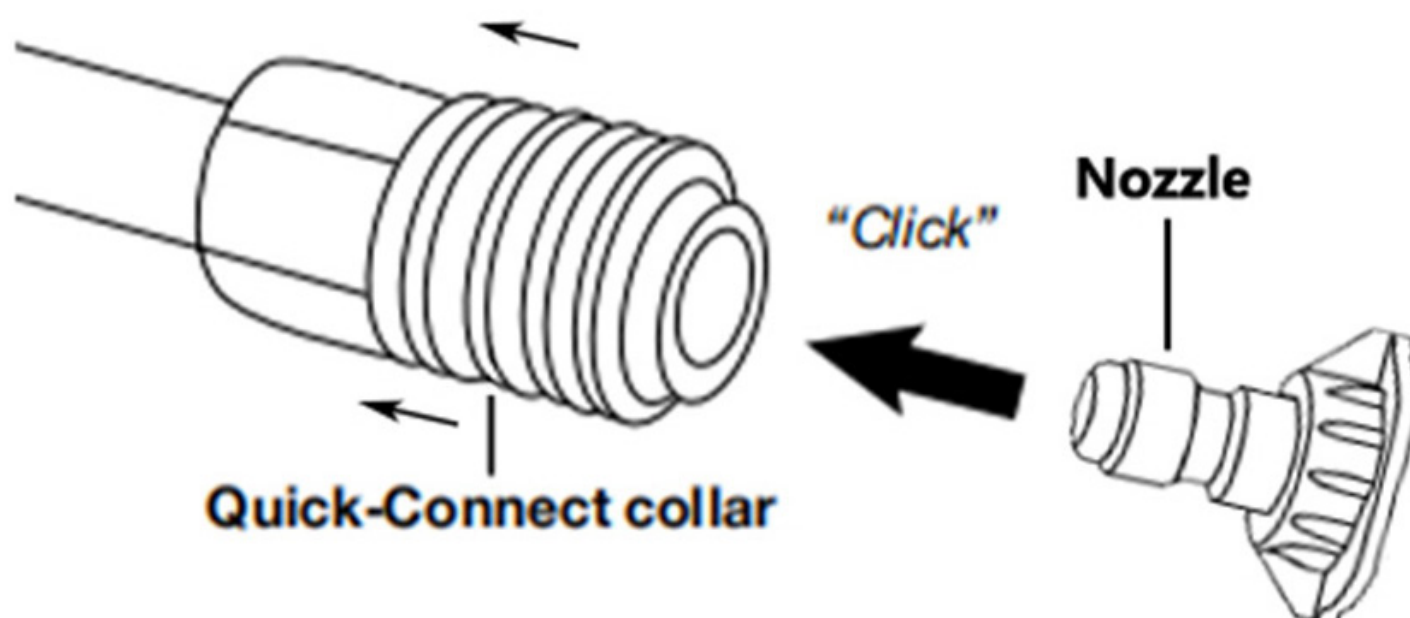

Figure 8: Nozzle Connect
9. Choose the appropriate size nozzle for your work. Use your hands to connect the quick-connect collar slightly downward, the required nozzle will be stuck in the quick-connect collar, release hands and hear the sound of click, indicating that the nozzle is successfully connected. See figure 8.